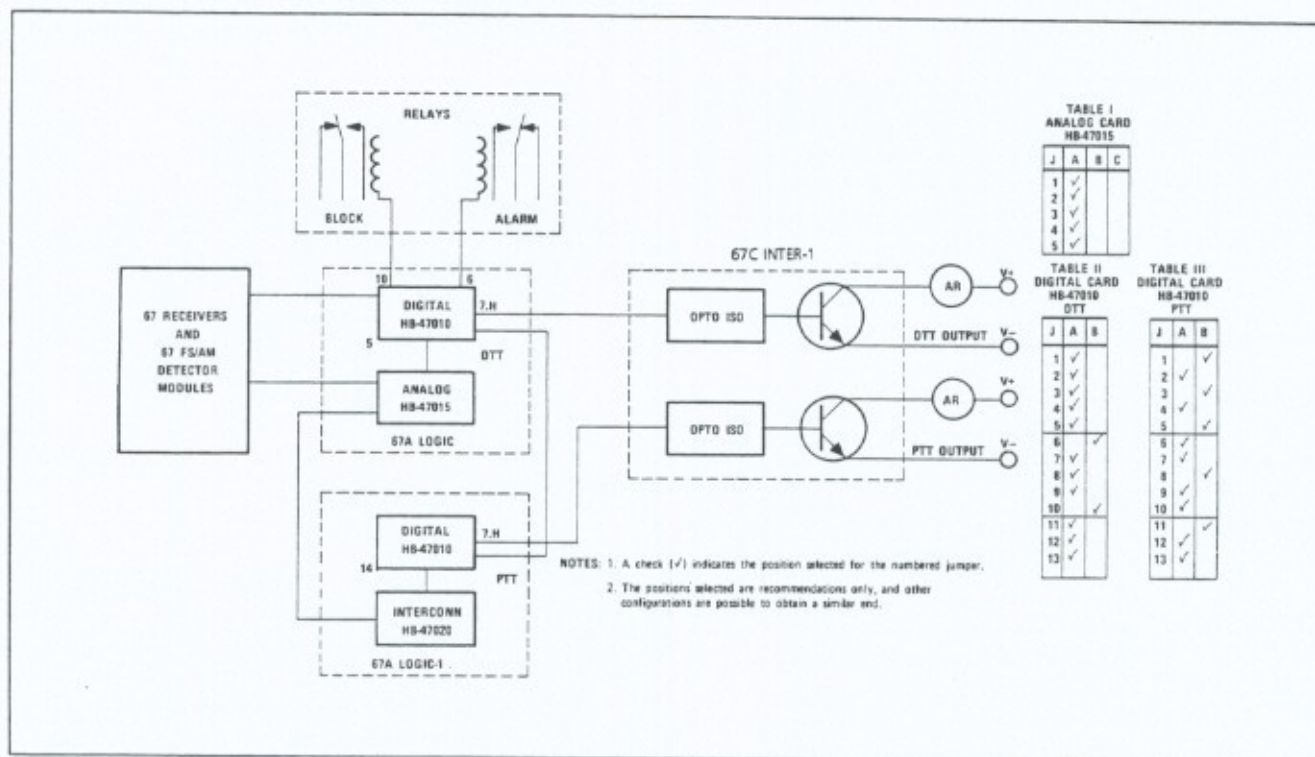
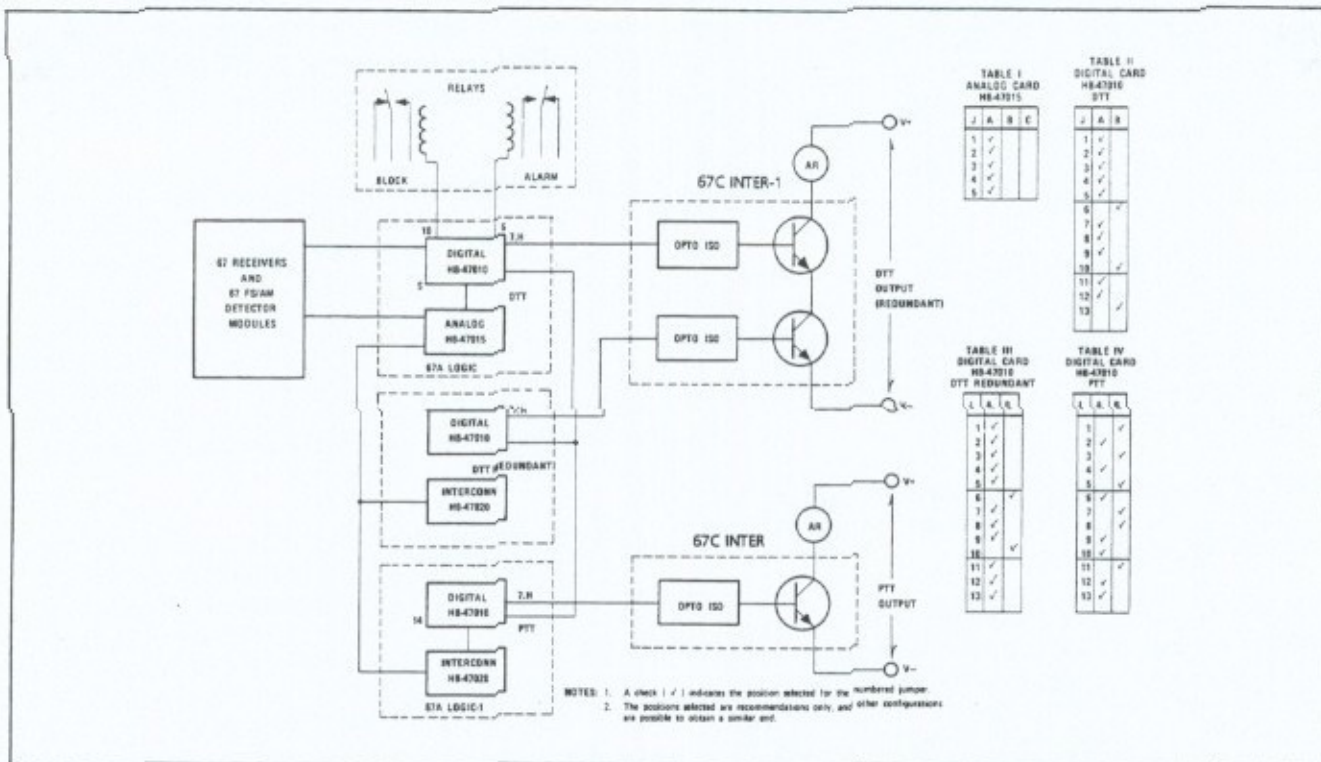

Figure 9-7. Use of the RFL 67A LOGIC and RFL 67A LOGIC-1 in dual-function systems (direct and permissive trip)
Figure 9-8. Use of the RFL 67A LOGIC and RFL 67A LOGIC-1 in dual-function systems with component redundancy for the direct transfer trip
Figure 9-7 shows a block diagram for a dual-function system, incorporating both direct transfer trip (DTT) and permissive transfer trip (PTT). The direct transfer trip portion of this system is similar to the system shown in Figure 9-5, with a slight change in jumper placement. A RFL 67A LOGIC-1 logic module is used for the permissive trip function.
Tables in Figure 9-7 show how the jumpers on both logic modules are to be set. Block and alarm relays are shown as being driven by the DTT logic module. By using this connection method, the same relays can be used to indicate failure in both the DTT and the PTT portions of the system.
d. Redundant Dual-Function System. Figure 9-8 shows a block diagram for a dual-function system with component redundancy. The difference between this system and the dual-function system in Figure 9-7 is the addition of another DTT logic module and another trip output circuit. The two DTT logic modules perform the same function, and each one drives a separate trip output circuit on the logic module (Section 5). The trip output circuits may be connected independently, or they may be wired in series.